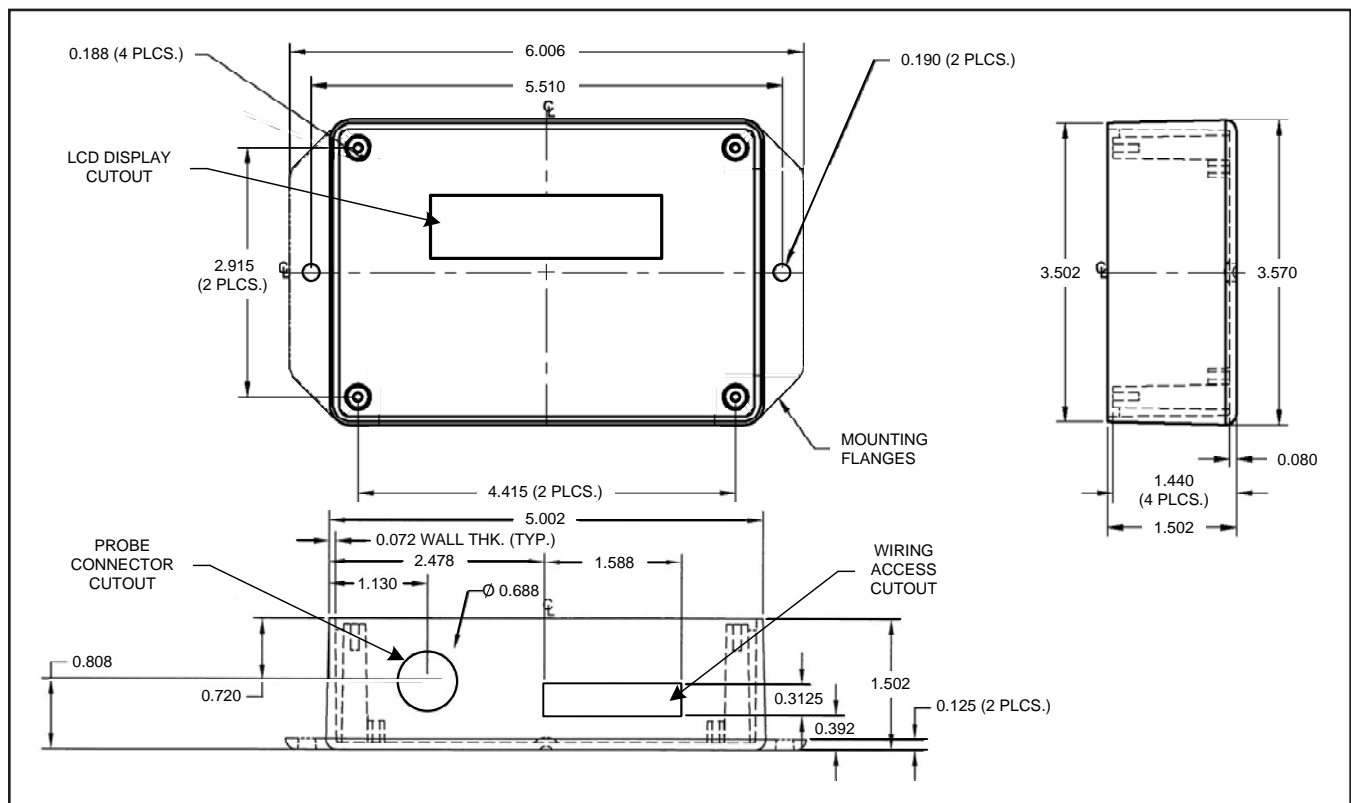

Figure 5. GF-1200-A Transmitter Mechanical Detail Drawing
Mount the transmitter upright in a field accessible location with sufficient service clearance to permit cover removal. The enclosure (Figure 5) is designed to accept signal and power wiring at the bottom-right of the enclosure. Ensure that the planned location of the transmitter will allow the sensor probe cable to reach the receptacle at the bottom-left of the transmitter enclosure.
2. ☐ Refer to Figure 5 and mark the two mounting holes located on each of the side flanges of the transmitter.